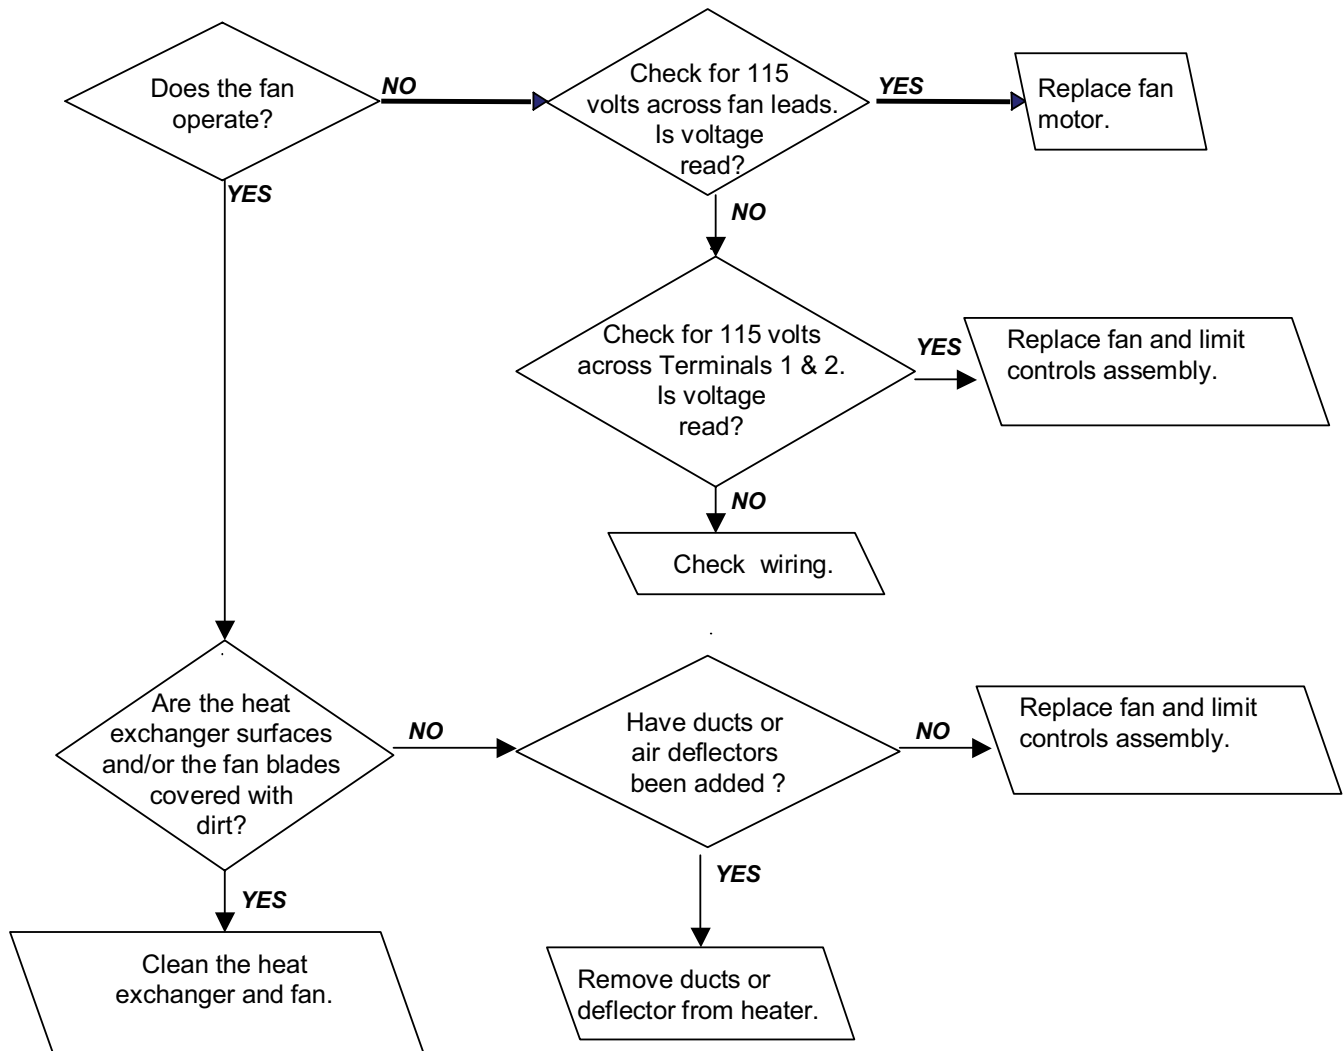

Figure 24. High Temperature Limit Troubleshooting Flowchart
- The cause must be found and corrected for heater to function safely/properly. Refer to the flowchart shown in Figure 24 for troubleshooting steps.